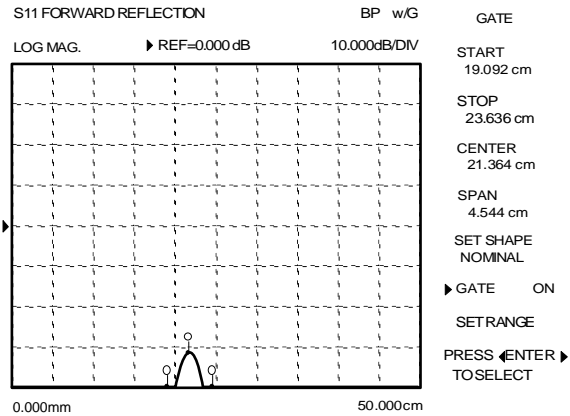

Figure 10-22. Response with GATE ON Selected
Step 3. Select GATE ON in the Gate menu and the unwanted responses are removed (Figure 10-22).